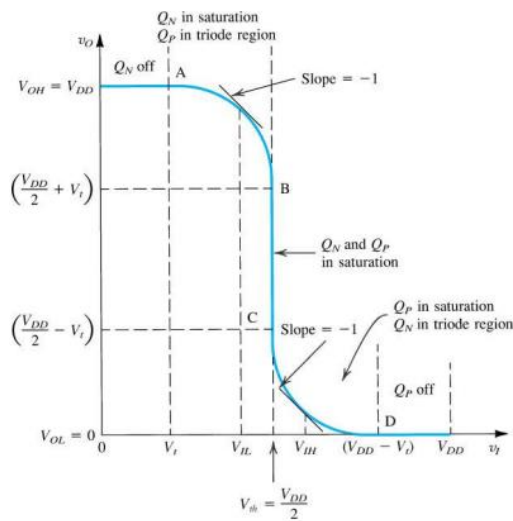

Fig. 1
- (a) Please design five **INVERTER** gates (one for each corner) with $(W/L)_n = 1\mu m/0.2\mu m$ while $(W/L)_p$ is your design. Run the transfer curve (like Fig.1), the transition point should be $V_{OUT} = 0.5V_{DD}$ @ $V_{in} = 0.5V_{DD}$ in 5 process corners (TT, SS, FF, SF, FS). Please comment on the differences. (10%)
- (a) Please design five **2-input NAND** gates (one for each corner) with $(W/L)_n = 3\mu m/0.2\mu m$ while $(W/L)_p$ is your design. (BOTH PMOS sizes should be same.) **Connect the two input together** to run the transfer curve (like Fig.1), the transition point should be $V_{OUT} = 0.5V_{DD}$ @ $V_{in} = 0.5 V_{DD}$ in 5 process corners. (TT, SS, FF, SF, FS). (10%)